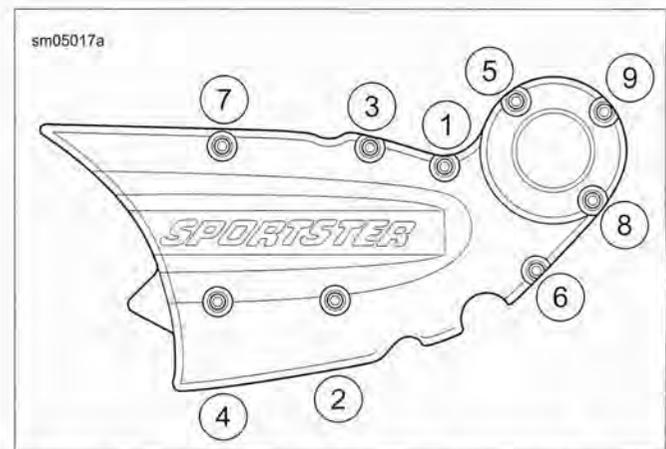

Figure 3-140. Oil Pump Cover Torque Sequence: XR 1200X
8. Install oil cooler rigid lines (3) to quick connect fittings. See 3.13 PRECISION COOLING SYSTEM: XR 1200X, Oil Pump Lines.
9. See Figure 3-140. Install oil pump/cam support housing cover. Secure with 9 socket fasteners. Tighten in the sequence shown to 90-120 **in-lbs** (10.2-13.6 Nm).